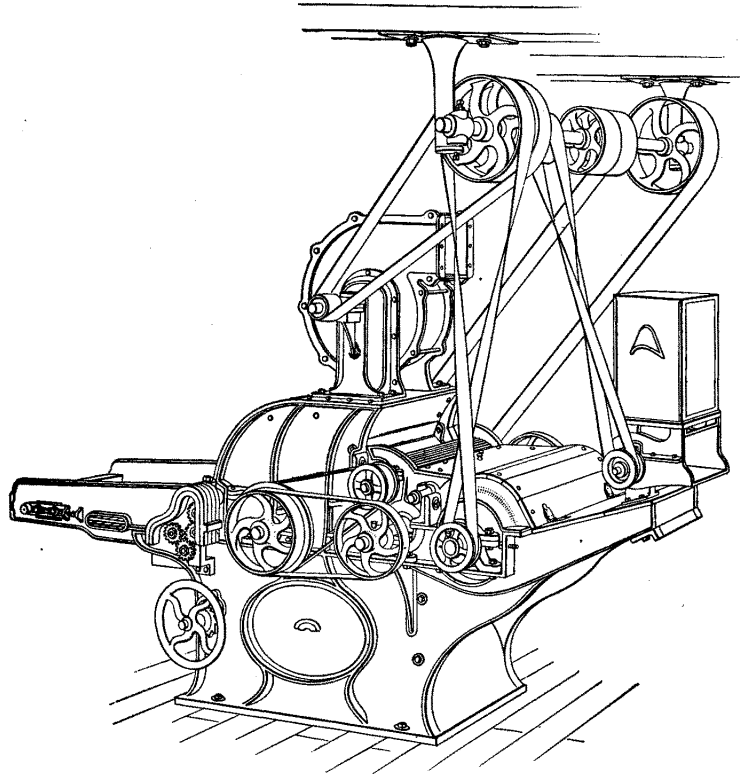
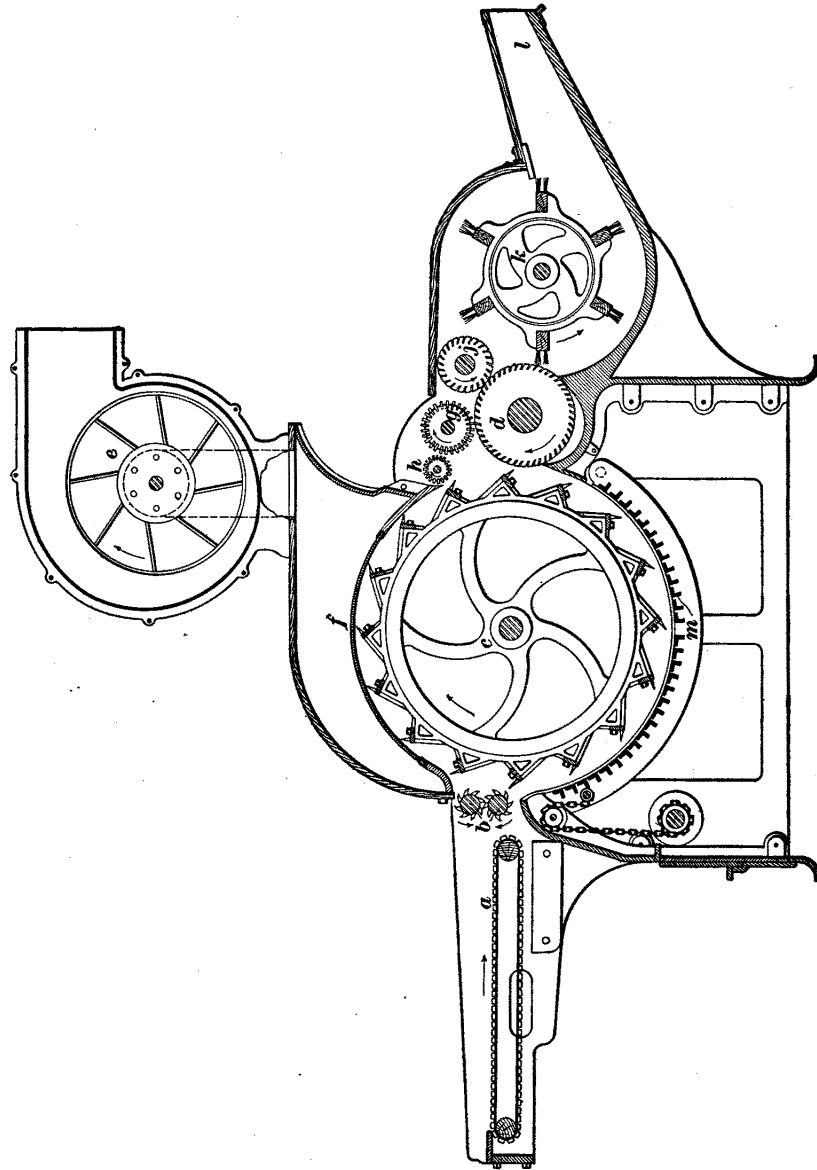

FIG. 8
FIG. 9
**19.** The **Goddard**, or **Curtis and Marble**, burr picker is favorably known to the trade and is found in some of the best mills. It is shown in Fig. 8 and in section in Fig. 9. The machine is constructed with the same objects in view as those previously described; namely, to remove burrs, shives, dust, and other foreign matter from the wool, and also to open the stock and make it lofty for the cards without breaking or injuring the fiber.
**22. Oilers.**—In Fig. 8, a square tank will be seen placed over the spout where the wool leaves the machine. This is a device for oiling the wool as it leaves the picker so that it
**23. Operation.**—In operation, the stock is fed to the traveling apron either by hand or by a self-feed. The apron *a*, Fig. 9, carries the wool to the cockspur feed-rolls *b* of the machine, where it is loosely held while being combed and opened out by the picker cylinder *c*. The wool is thus opened out at the start and the burrs and dirt loosened. The picker cylinder revolves upwards past the feed-rolls and carries the wool to the large burr cylinder *d*. The exhaust fan, or blower, *e* on the top of the machine creates a strong draft of air, which removes loose and small particles of dirt through the perforated brass screen *f*, and also lifts the fibers of wool from the picker cylinder, so that they are more readily caught by the teeth of the burr cylinder *d*. This cylinder takes the stock from the picker cylinder, receiving the fibers in the spaces between its toothed rings, while the burrs and other matter being larger than the fibers of wool remain on the surface of the cylinder and are removed by the rapidly revolving burr guard *g*. Working in connection with this burr guard is a smaller roll *h*, which prevents the burrs and refuse from being thrown on to the brush cover. The burrs thrown out by the burr guards are carried downwards by the picker cylinder, and such as do not drop through the grate *m* under the cylinder are carried forwards and thrown into a burr box through an opening beneath the feed-rolls of the machine. A small burr, or cotter, cylinder *j* operates in conjunction with the large burr cylinder, revolving slowly in the opposite direction and opening out cotted lumps of wool. The revolving brush *k* cleans the wool from both burr cylinders and delivers it through the spout *l* to the gauze room.
**24.** The Goddard picker, as shown in Fig. 8, requires a countershaft. The picking cylinder, fan, and revolving brush are driven direct from the countershaft, as is also the oiler, if used. The other parts of the machine are driven from the